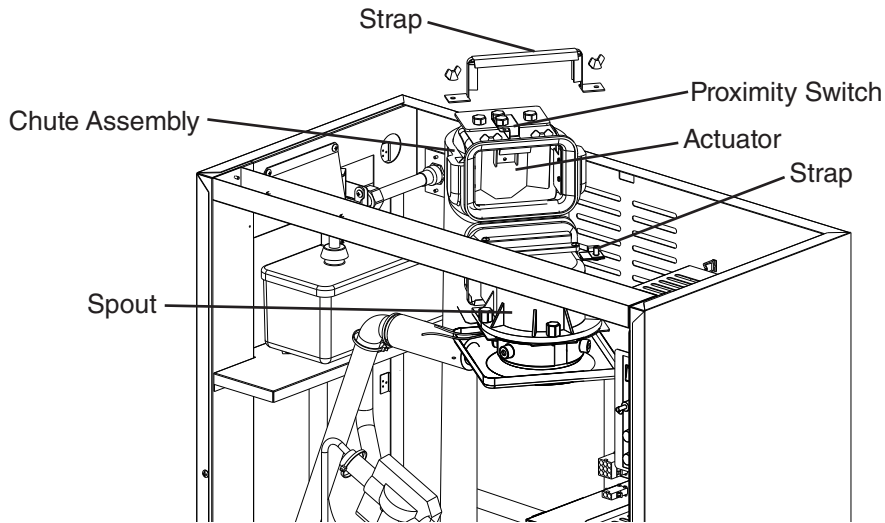

Fig. 12
- 3) Remove the strap connecting the spout to the chute assembly. See Fig. 12. Pull up the chute assembly slightly so that you can access the actuator located in the top of the chute.